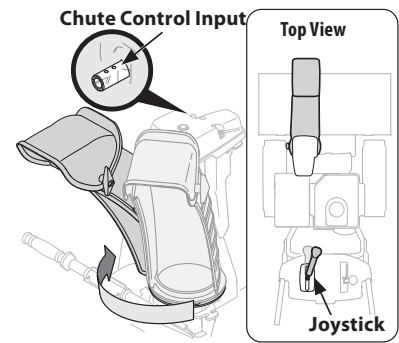

Figure 2-28
4. Squeeze trigger on joystick and rotate chute by hand to face forward. The holes in chute control input will be facing up. See Figure 2-28.